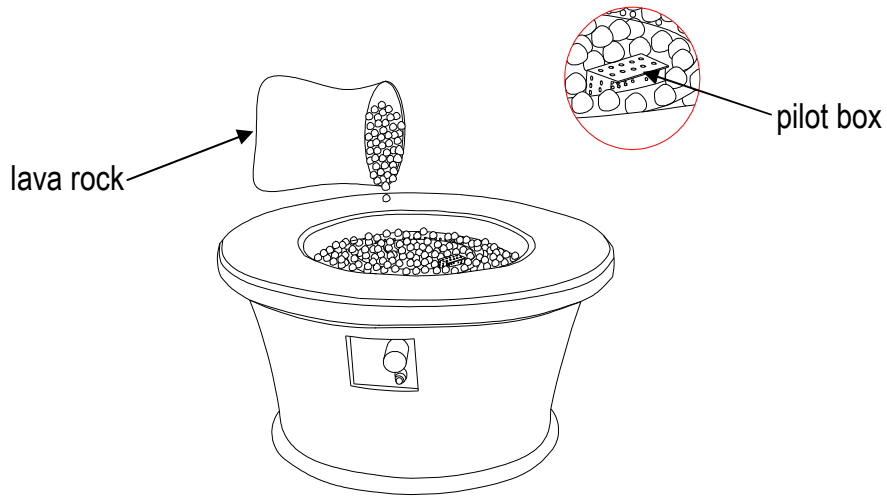

Figure 1
- Put the Lava rock (Part# 01) around the burner until lava rocks are just over the top of the burner, see Figure 1. A gas fire pit requires 6 kg lava rock. **NOTE: DO NOT completely cover the burner element or block the pilot box with the lava rocks. When the first use, preheat the lava rocks for 15 minutes to burn out the impurities and air in the natural lava rocks.**